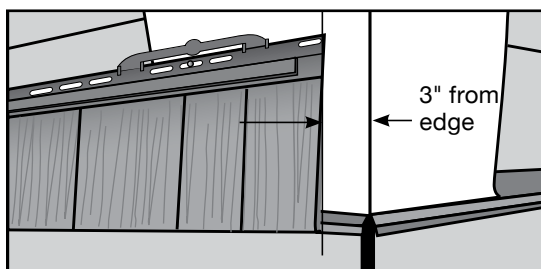

figure 10
1. Install the first Cedar Impressions panel 3" from the edge of the outside wall (figure 10).